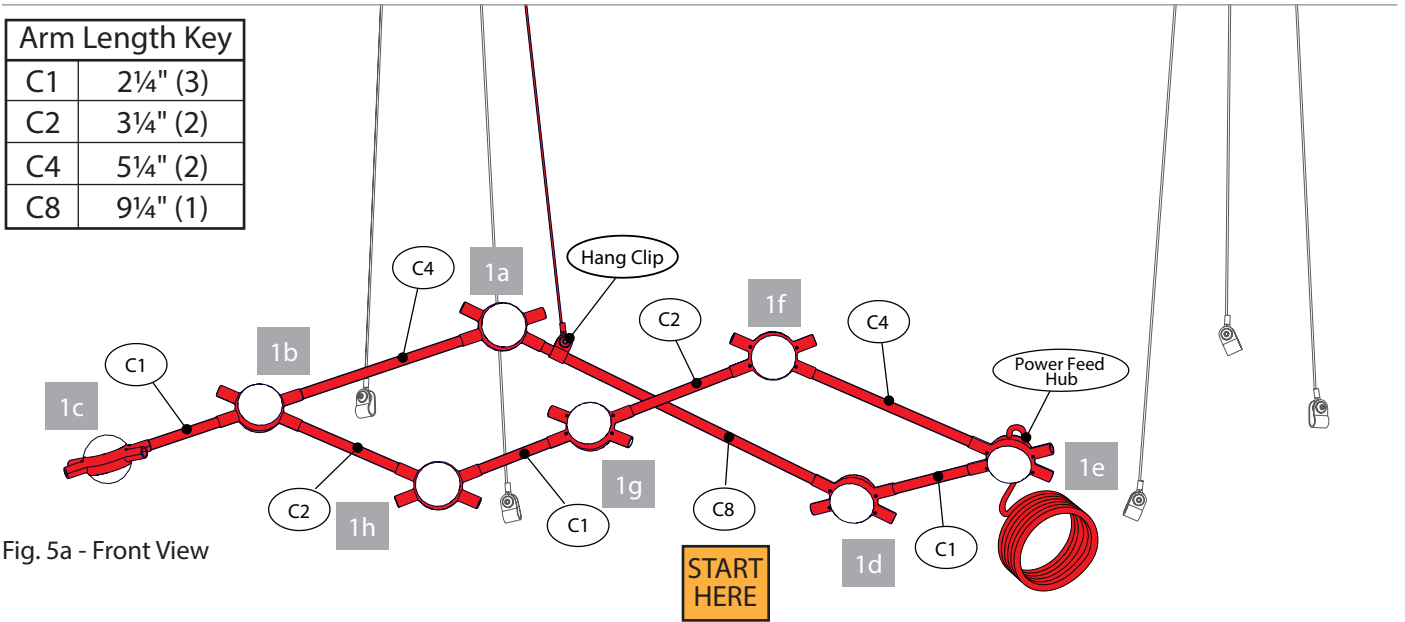
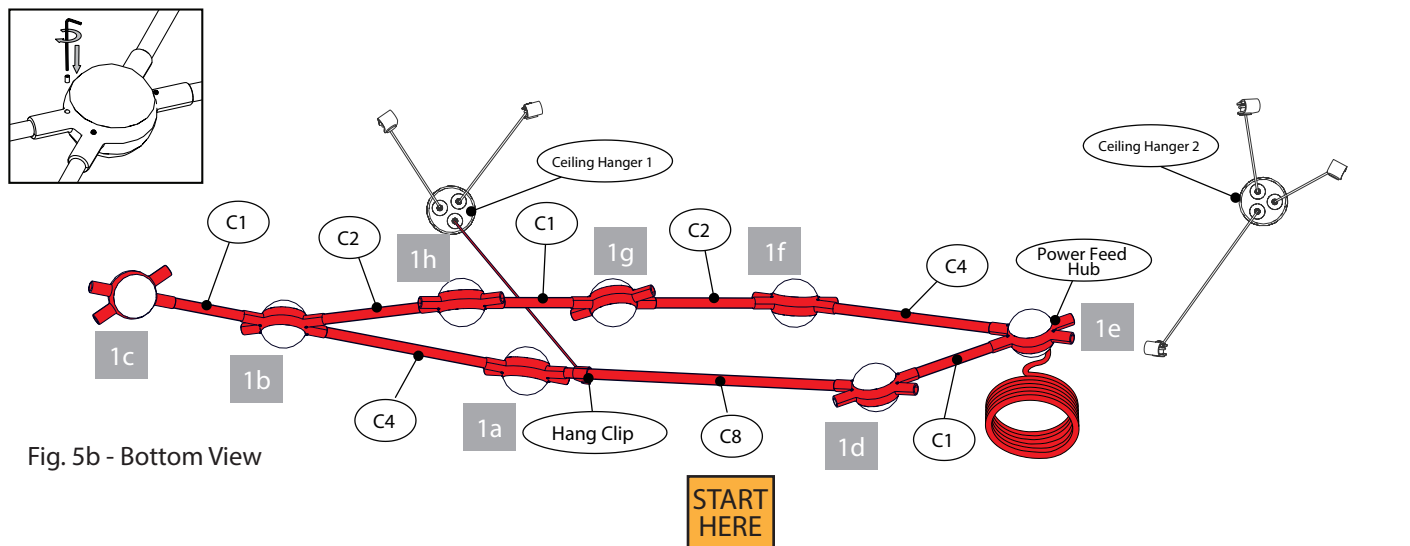

Fig. 5a - Front View
Fig. 5b - Bottom View
- Start by connecting the C8 Arm to a Hang Clip from Ceiling Hanger 1 (note the Hang Clip orientation in Fig. 5b) approx. ½" from one end (Fig. 5a). Connect a 45° Hub (1d) to the other end and continue by connecting a C1 Arm followed by the Power Feed Hub (1e). Then connect Arms and 45° Hubs following the order and pattern in the Figs. 5a/5b.